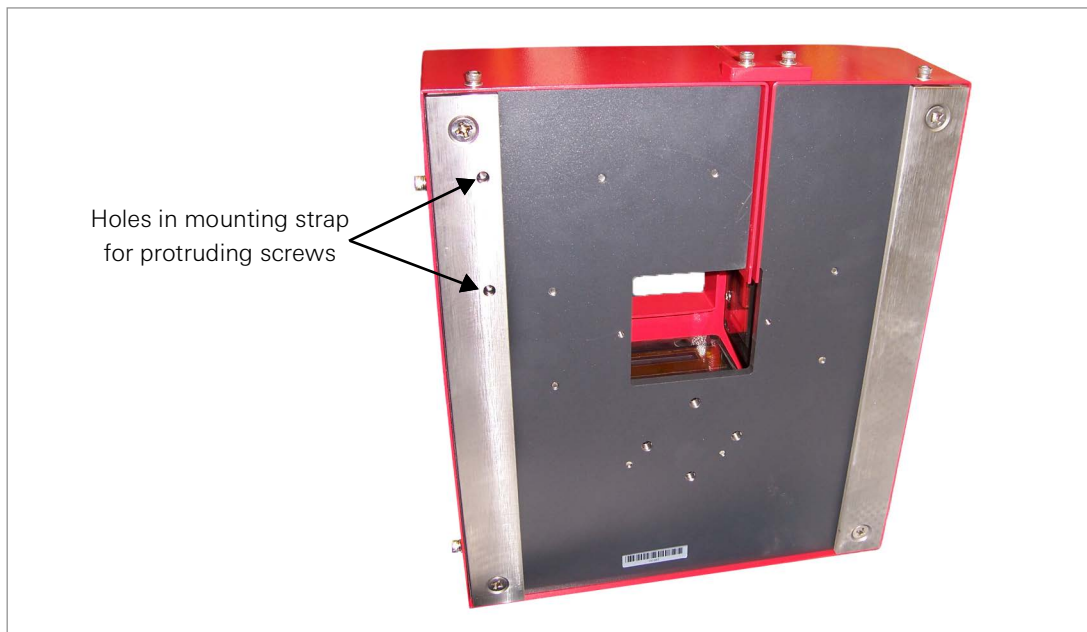

FIGURE 7: Metal Strips Secured to the Readout
1. Attach the supplied metal mounting strips to the underside of the readout with the supplied metric screws. The mounting strip with additional holes is oriented over the protruding screws on the readout (Figure 7).